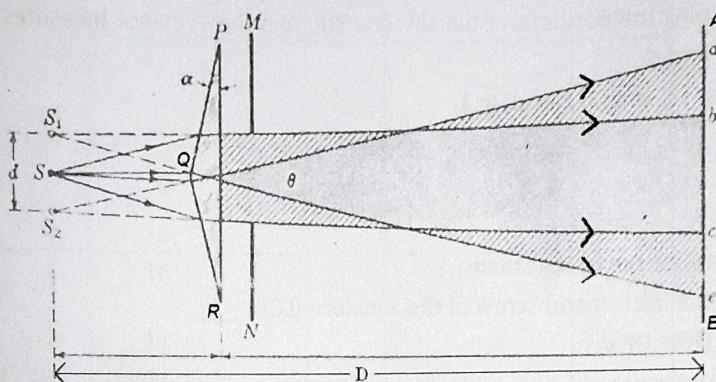

Figure 1 Diagram of Fresnel's biprism experiment
THEORY: The Fresnel biprism is a prism which has one of its angles slightly less than two right angles and two equal small base angles. It acts like two very thin prisms placed base to base. When rays from a slit, S, illuminated by a monochromatic light, such as sodium light are made to be incident on the plane face of the biprism (PQR), the emergent rays from the two halves of the biprism appear to diverge from two coherent virtual sources, S_1 and S_2 (Figure. 1). If a screen (AB) is placed with its plane perpendicular to the plane containing the slit and the common base of the biprism, the emergent beams of light overlap on the screen producing alternate dark and bright fringes.